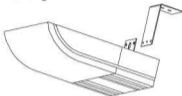

Fig. 4
4. Install the brackets at distance from each other according to Fig. 1, securing them using a chain or fasteners (fig. 4).
5. Suspend the heater on the brackets according to Fig. 4, first securing on edge, then another. Make sure that screws are tightened firmly.